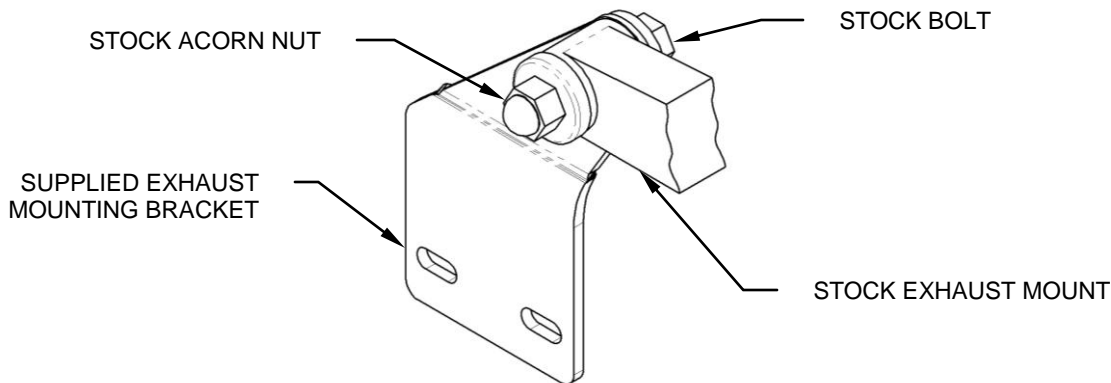

FIGURE 1
2. Remove the exhaust mounting bracket from the box and attach it to the stock exhaust/passenger footpeg mount as shown in figure 1. **DO NOT TIGHEN** at this time.